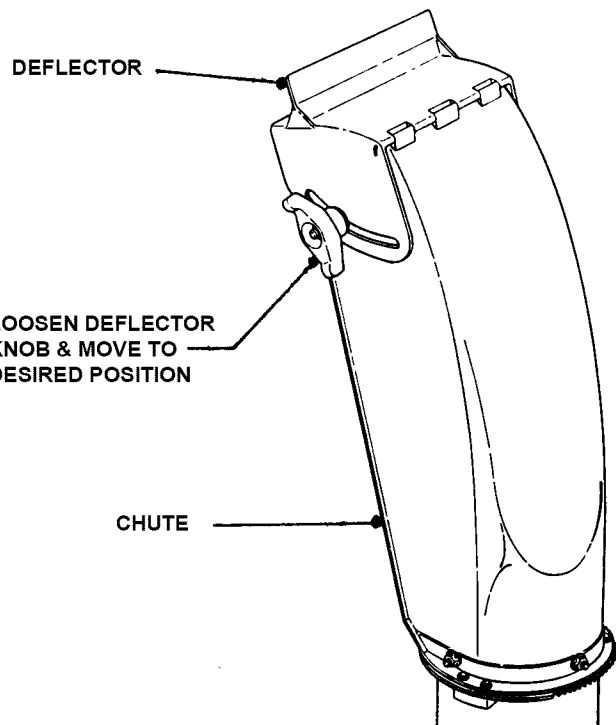

FIGURE 2.6
2. Loosen deflector knob and position deflector to desired angle. Retighten knob. See Figure 2.6.
3. Rotate discharge chute in desired direction. See Figure 2.6.